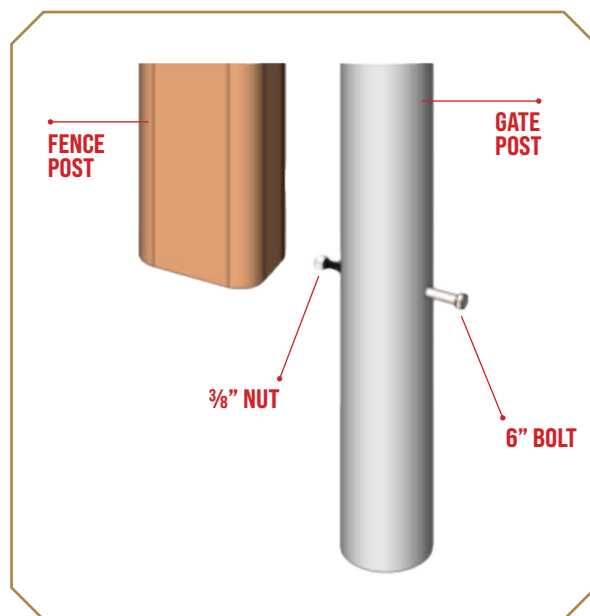

Figure 2
2. Slide the 6" bolt through the hole to anchor the bottom of the heavy round gate post. Put on the 3/8" nut for retention (Figure 2).